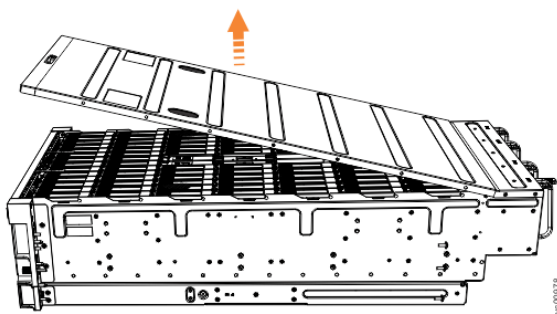

Figure 123. Removing the 5U expansion enclosure cover
4. Carefully lift the cover up, as shown in Figure 123 on page 175.